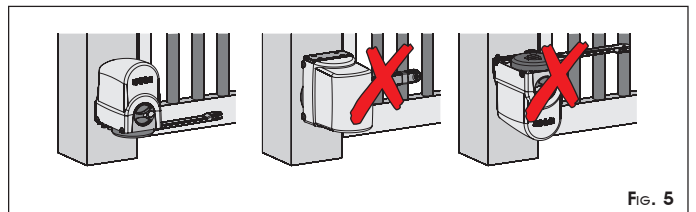

FIG. 5
- The operator was studied and made to be secured vertically (Fig.5). The operator cannot be installed in other positions.